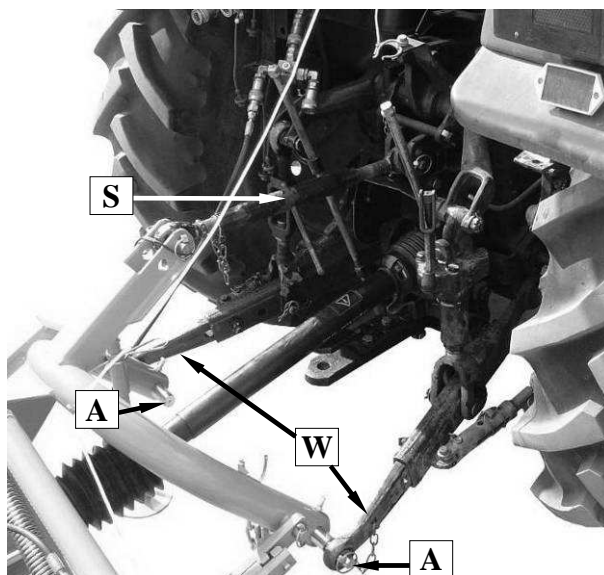

Fig. 9. Mower mounted on tractor
Mower should be mounted on tractor with use of 3-point linkage as provided on **Fig. 9**. Upon mounting the mower adjust the machine position on even ground with use of upper link (**S**) and hangers (**W**) of tractor's lower links. Cutterbar should be inclined towards. Hangers (**W**) of tractor's lower links should be placed on pins (**A**) (**Fig. 9**) of mower's linkage.
- ❑ by means of upper link (**S**) (**Fig. 9**) set required mowing height. By extending the link (**S**) the mowing height is increased, while shortening it is reduced.